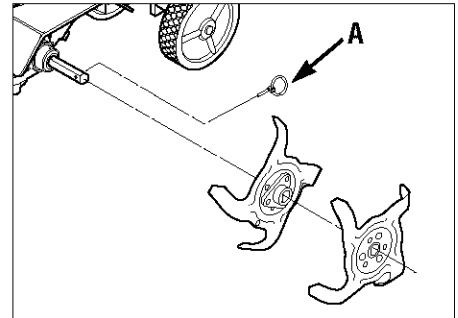

Figure 16: Remove ring lock pin (A) to take off tines.
IMPORTANT: The ring lock pin (A, Figure 16) is under spring tension – wear gloves to protect your fingers when removing or replacing the ring lock pin.
2. Flip open the ring (A, Figure 16) on the left side ring lock pin and remove the ring lock pin.
2. Remove the ring lock pin (A, Figure 16) from both sides of the unit. Remove both outer tine sections. Mark each section as a left or right side tine and whether it is an inner or outer section.
2. Remove the ring lock pin (A, Figure 16) from both sides of the unit. Remove the old tine sections and replace them with new tine sections. Refer to Figure 16 and the tine pattern shown in the *Parts List* for tine pattern details. Insert the ring lock pins through the rounded side of the tine shafts and snap the ring over the shaft (see *DETAIL - Ring Lock Pin*, Figure 4, in Section 2).